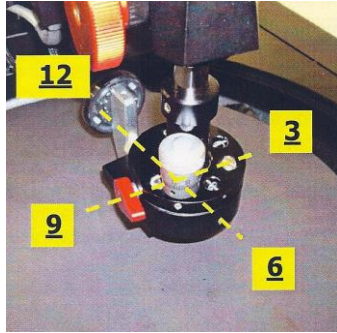
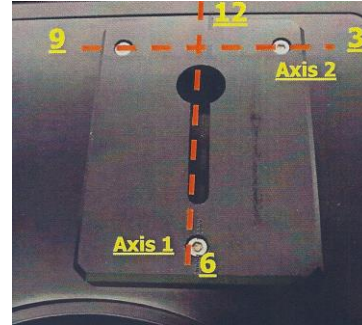

Figure 6: Indicator moved closer to the center and capable of a full rotation without getting out of the platen.
Figure 7: The clock reference of the leveling plate.
1. With the dial indicator still attached from the verification of the platen run-out, move the arm to re-position the indicator closer to the center of the platen (Figure 6).
2. Activate FULL rotation at the lowest speed (1) and make sure the tip of the dial indicator makes continuous contact with the platen for a complete rotation.
4. Perpendicular alignment is accomplished by adjusting the screws on the leveling plate (Figure 7).
5. The dashed red lines in Figure 7 indicate the axes of alignment of the 3-point leveling plate, which are illustrated as a clock in Diagram 1.
7. Activate sample rotation and position the dial indicator at the 3 o'clock position on the platen (Figure 6).